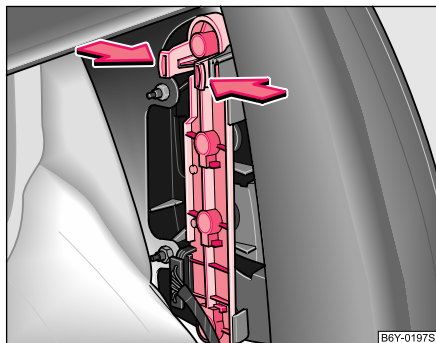

Fig. 165 Remove light bulb holder
- Press the fixing straps in the upper part of the light bulb holder in the direction of the arrow and remove the light bulb holder ⇒ **fig. 165.**